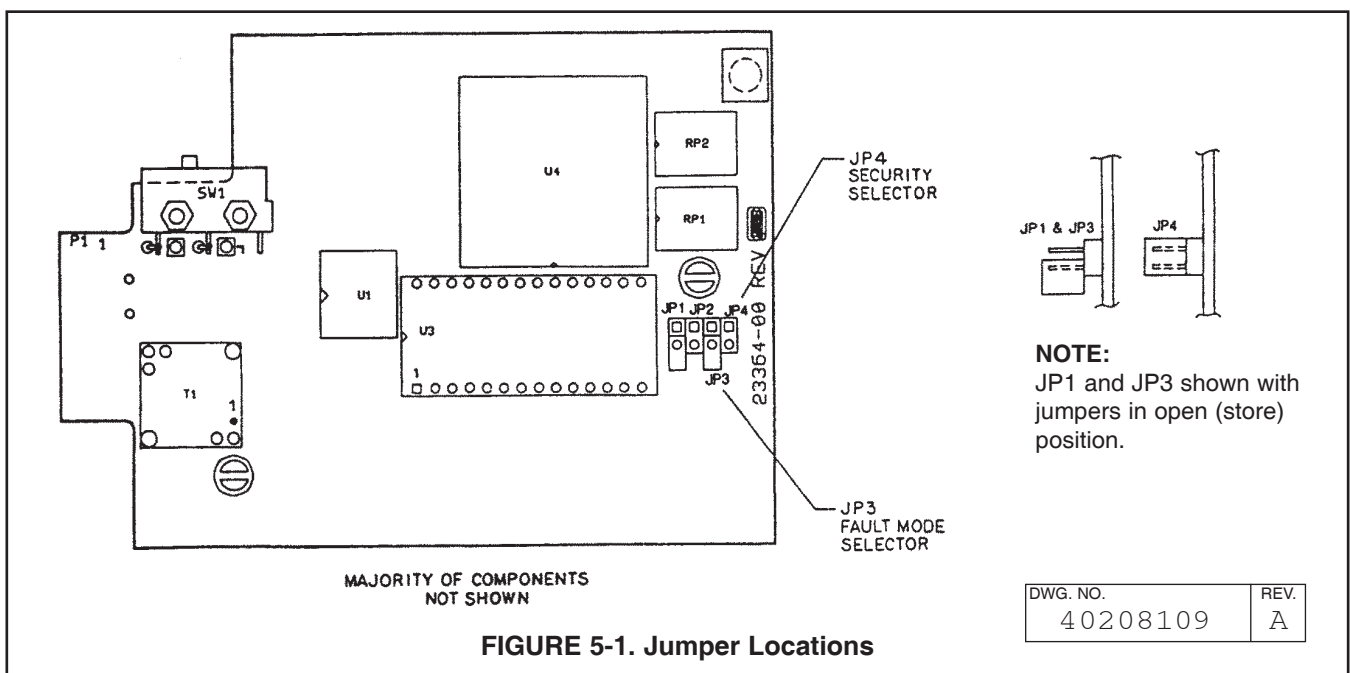

FIGURE 5-1. Jumper Locations
5.1 PUSH BUTTON SECURITY. This feature disables the dual push buttons on the transmitter to prevent accidental or unauthorized changes to the calibration and configuration. HART communication is not affected by this change. Perform the following steps to disable the push buttons. See Figure 5-1 for jumper locations on CPU board.